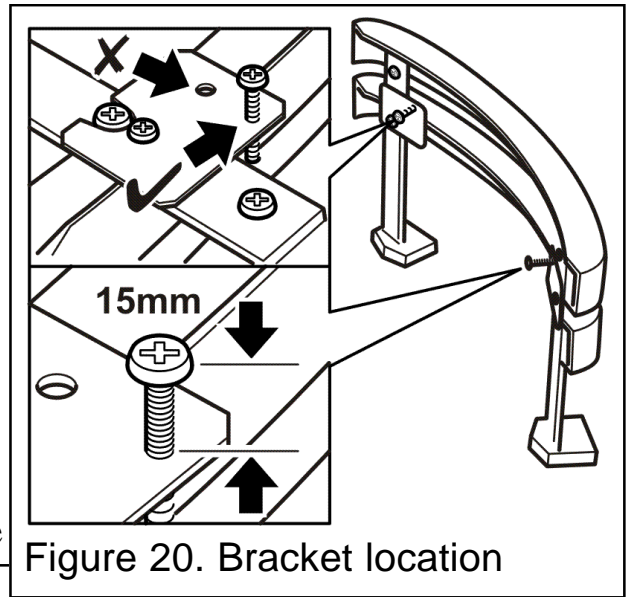

Figure 20. Bracket location
2. The screw should be set at a distance of 15mm (Measured from the surface of the bracket to the underside of the screw head). Adjust the screw to this distance (See figure 20).